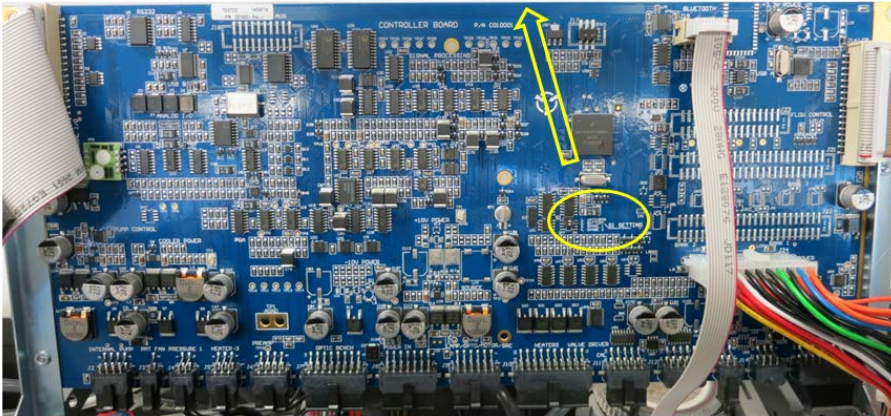

Figure 9 – Switching the Battery On/Off
2. Check the battery is turned on at the main controller PCA (refer to Figure 9).
4. If storing over a long period (six months) turn the battery off by the switch on the main controller PCA (refer to Figure 9).